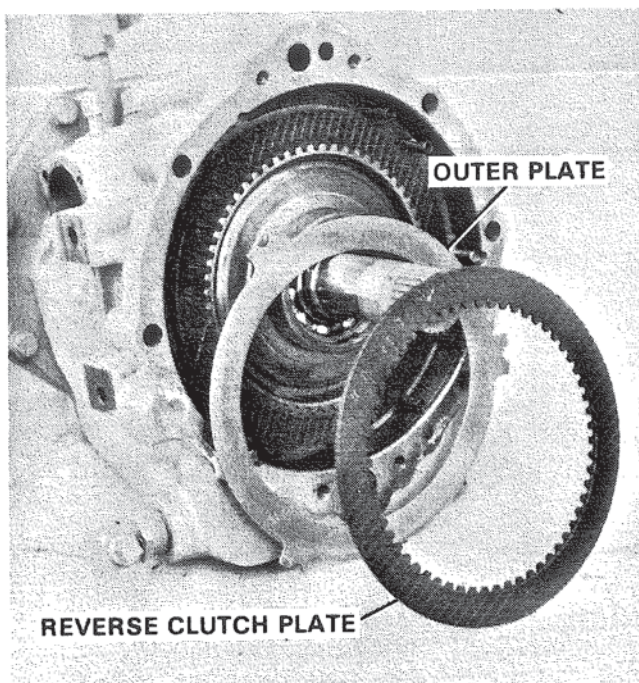
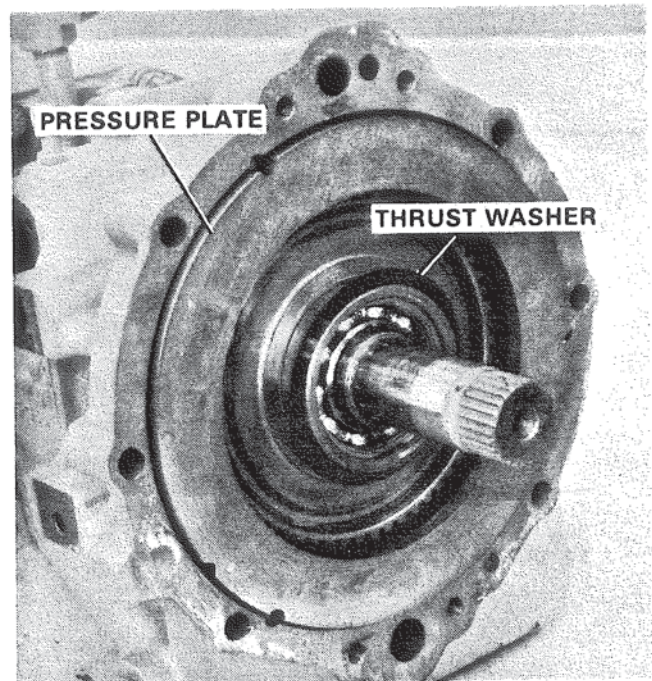

Figure 71. Installing Reverse Clutch Plates.
Figure 72. Installing Thrust Washer and Reverse Clutch Pressure Plate.
6. Install one of the reverse clutch plates over the exposed teeth of the ring gear. Install the outer clutch plate with the odd shaped lug located as shown in Figure 71, to obtain the proper spacing with reference to the springs. Install the second
twelve (12) holes in the downward position. Align the cast slot in the pressure plate with the large oil hole in the front face of the transmission case. Figure 72. Since the twelve (12) pressure plate springs are not evenly spaced, the slot and oil hole alignment are required to locate the pressure plate with relation to the pressure plate springs. Figure 71. A properly assembled reverse pressure plate will appear as shown in Figure 72. If pressure plate does not drop down to position, approximately flush with transmission case front face, check the three (3) dowel pins for possible misalignment.